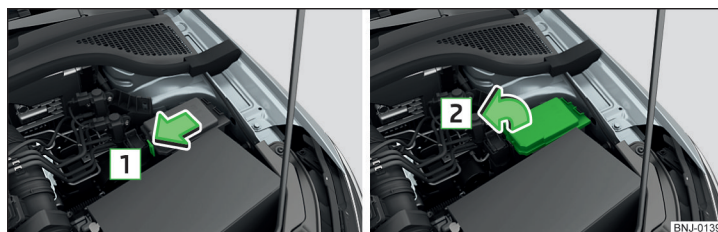

Fig. 203 Remove the cover
- Press together the lock buttons of the cover simultaneously in the direction of arrow **1** and remove the cover in the direction of arrow **2** » Fig. 203.